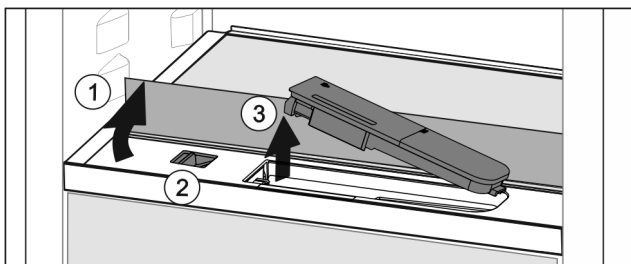

Fig. 48
- ▶ Lift the glass panel and fold to the back as far as it will go Fig. 48 (1).
- ▶ Slide the slider Fig. 48 (2) to the left.
- ▶ Remove the water tank Fig. 48 (3).